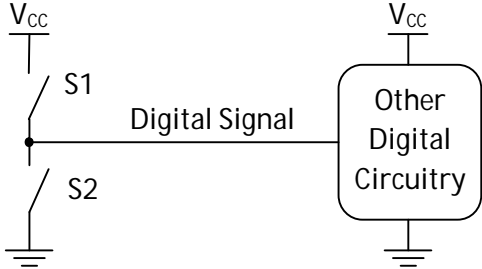
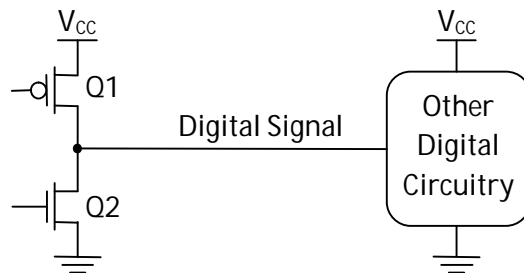

Figure 1-8 Using a common V_{CC} .
Figure 1-10 Generating a Digital Signal with Complementary MOSFETs.
Generating a digital signal always requires a voltage source, but it is not necessary to use a separate voltage source for each signal. Usually a single voltage source called V_{CC} or V_{DD} is used for all the signals in a circuit (Figure 1-8).
Note the use of the ground symbol in Figure 1-8. All points in the schematic that are connected to a ground symbol (\equiv) are connected together. Similarly, all points in the schematic that are labeled with the same name (such as V_{CC}) are connected together as well.
To create a digital signal using MOSFETs, we need only replace the switches in Figure 1-8 with MOSFETs (Figure 1-10). Note that the source of the PMOS transistor is connected to V_{CC} and the source of the NMOS transistor is connected to ground. When MOSFETs are connected in this way they are said to be *complementary*.
5. Consider Figure 1-10. (a) If the digital signal goes high (meaning Q1 is on and Q2 is off), does charge flow into or out of the other digital circuitry? (b) Repeat part (a) if the digital signal goes low (meaning Q1 is off and Q2 is on). (Hint. Recall charge flows from higher to lower electric potential.)